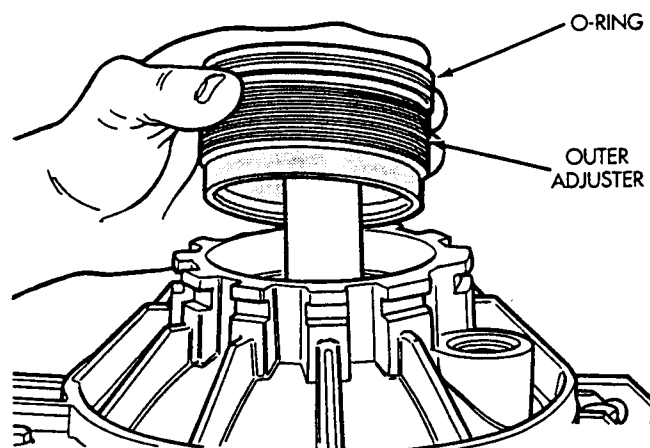

Fig. 43 Outer Adjuster Installation
(48) Install outer adjuster with new o-ring (Fig. 43). Torque the outer adjuster (special tool 6503) to the torque reading recorded in step 25. Then seat bearings by turning differential three or four revolutions in both directions. Tighten adjuster a second time to same torque recorded in step 25. Again reseat bearings. Repeat this sequence until correct adjuster torque is maintained.